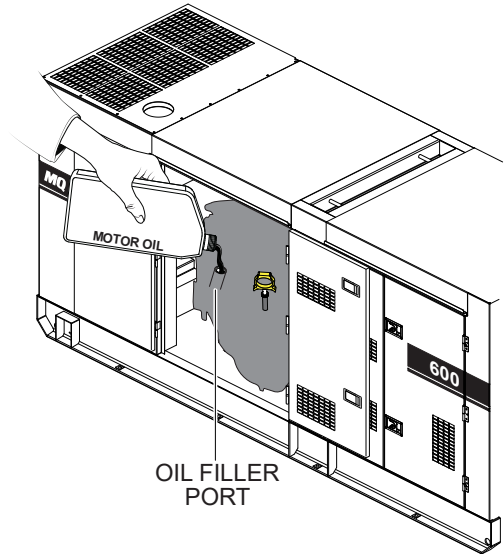

Figure 35. Engine Oil Filler Port
5. If the engine oil level is low (Figure 34C), remove the cap from the oil filler port (Figure 35) and fill to a safe operating level (max) as indicated by the dipstick (Figure 34A). Fill with recommended type oil as listed in Table 11. Maximum oil capacity is 12.7 gallons (48 liters).